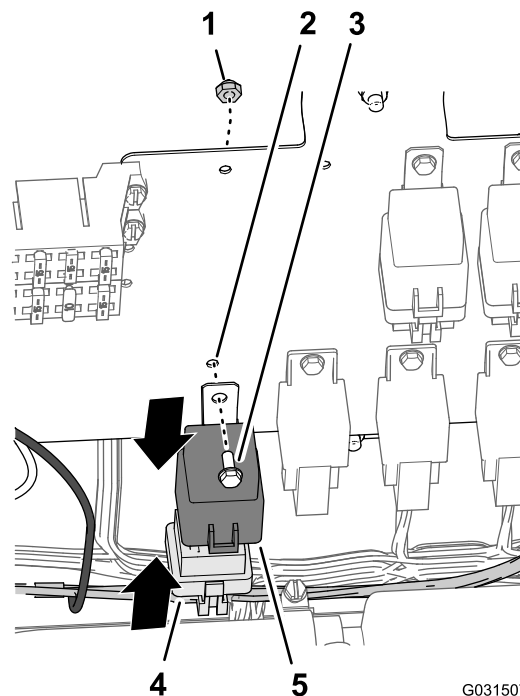

Figure 201
- At the 197 cm (77-1/2 inches) engine-compartment branch of the wire harness, align the relay with the 5-socket connect of the wire harness for the finishing kit (Figure 201).
- Insert the pins of the relay into the sockets of the connector (Figure 201).
- Align the hole in the mounting tab of the relay with the hole in the wiring panel (Figure 201).
- Secure the relay to the panel (Figure 201) with the flange-head bolt (#10 x 1/2 inch) and locknut (#10).